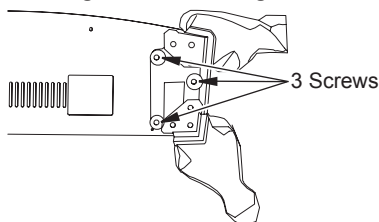

Figure 3 - Installing Legs
2. Carefully lay heater on its back. Attach legs with hardware provided (see Figure 3).